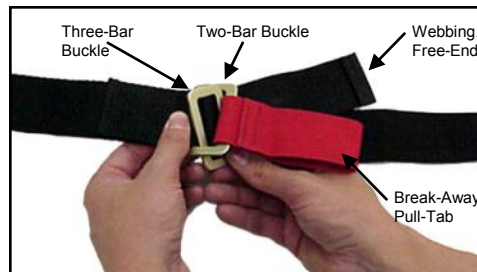

Figure 2, Fastening the Buckle
- 1 Pass the three-bar buckle and webbing upward through the opening in the two-bar buckle (fig. 2). Make sure to pull the free end of the webbing completely through the opening